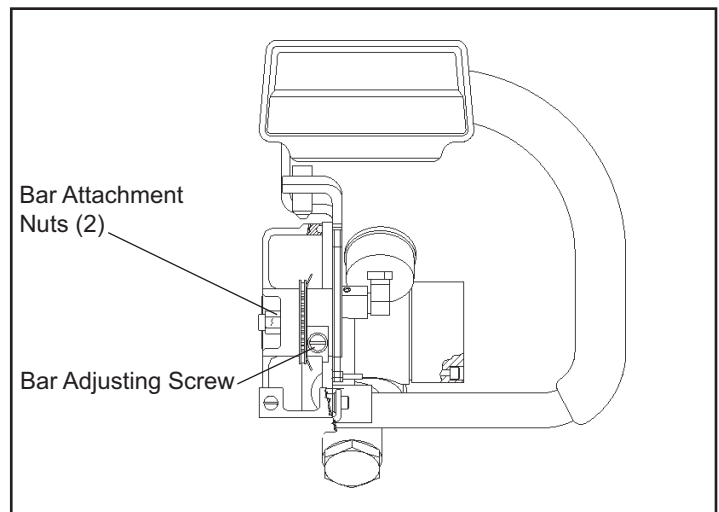

Figure 8. Attachment Screw Locations
2. Loosen the two saw bar attachment nuts (Figure 8).
5. Fully tighten the two saw bar attachment nuts (Figure 8).